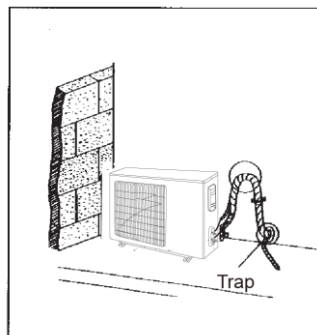

Fig. 4.16
- 2). All pipes are bound and taped together and also should be trapped to prevent water from returning to the room (See Fig. 4.16).